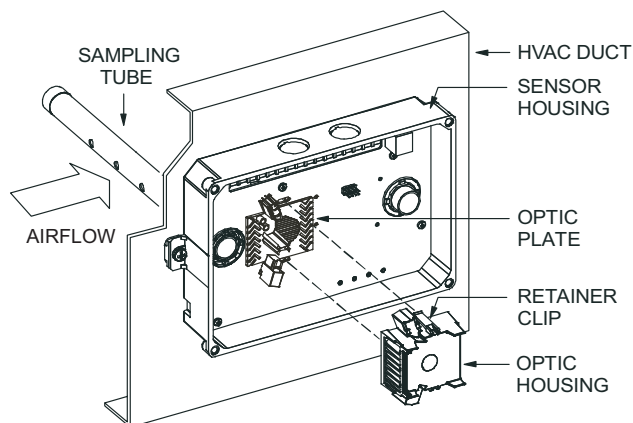

Fig. 37 — Sensor Cleaning Diagram
1. Disconnect power from the duct detector, then remove the sensor's cover. See Fig. 37.